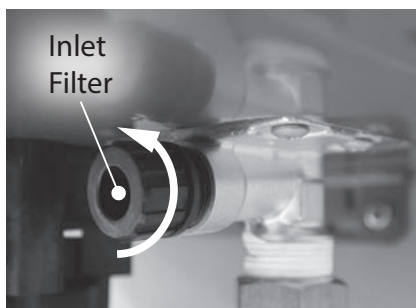

Figure 167 - Locate and remove inlet filter
- 8 Locate and remove the inlet filter as shown in Figure 167 to drain any residual water left in the system.